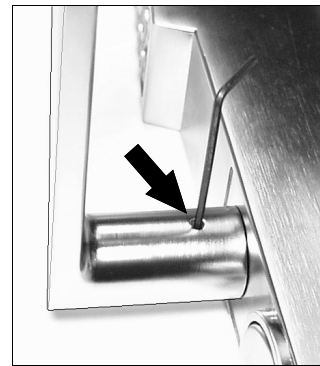

Fig. 2: Tighten lever set screw with 1/8" hex wrench
2. **Install the lever with proper orientation** for the lock/door hand used. Tighten the set screw using a 1/8" hex wrench (see Fig. 2).